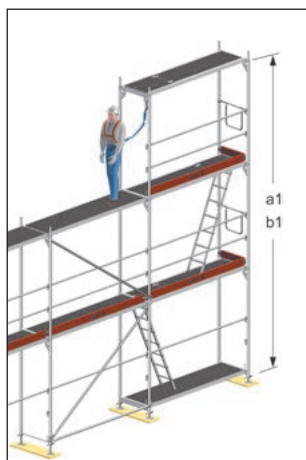

Fig. 16: Attachment overhead
- a1) when attached overhead: at least 5.25 m (Fig. 16) and
- b1) when attached overhead: at least 4.75 m (Fig. 16)